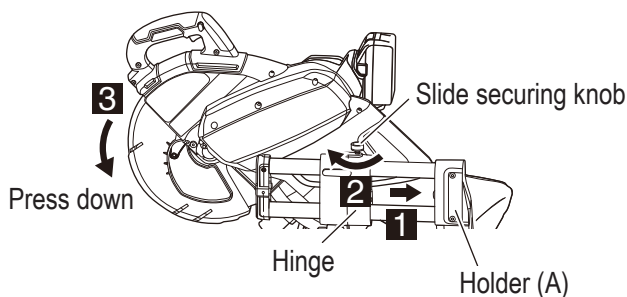

Fig. 28
5. Cutting narrow workpieces (Press cutting) (Fig. 28)